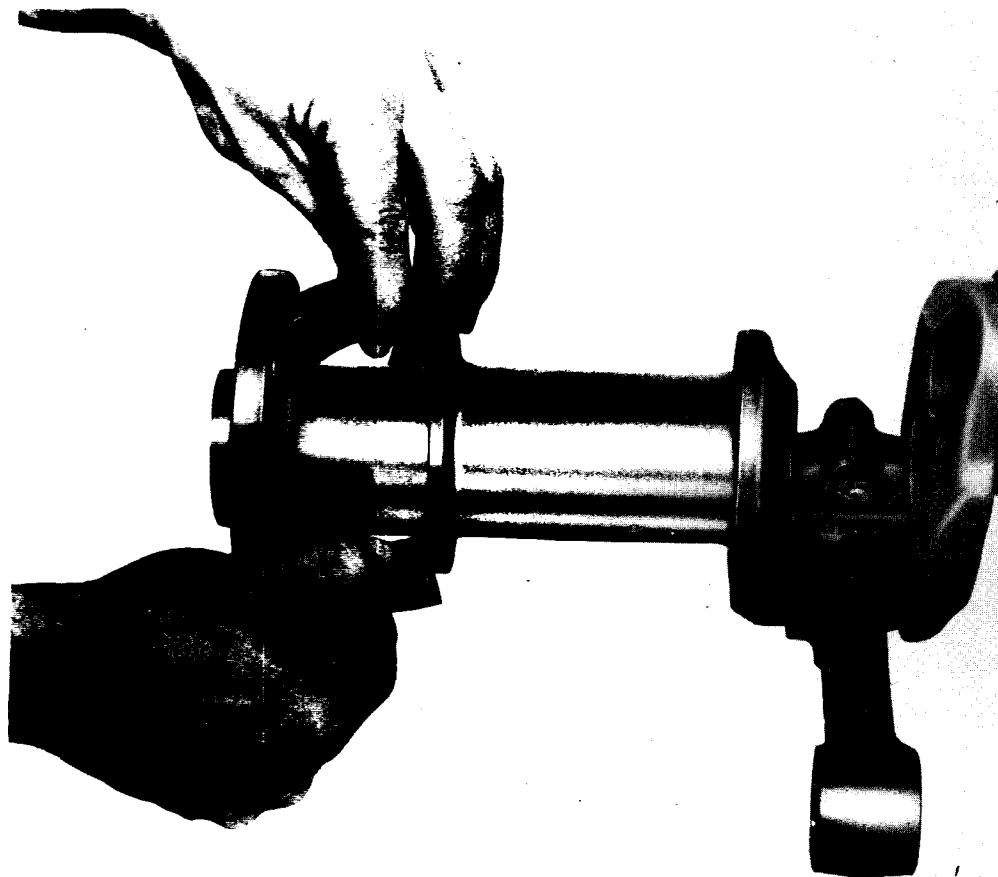

Figure 41. Installing Crankshaft Oil Seal
h. Twist the seal and slide it over the crankshaft with its felt side toward the flange. (See figure 41.) Bring the ends back together.